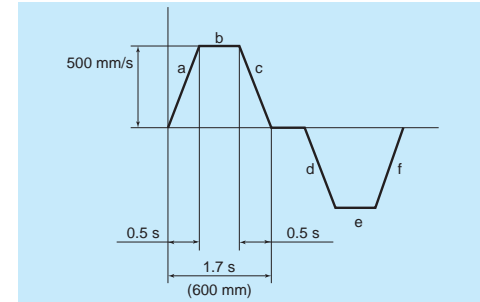

Fig. 4.9
3-1-1. Fatigue life; Multiply the result of the Eq. ② by the dynamic equivalent coefficient (Table 4.14. double slider) to convert the load volume. From operation profile (Fig. 4.9), the acceleration is 1 m/s2.